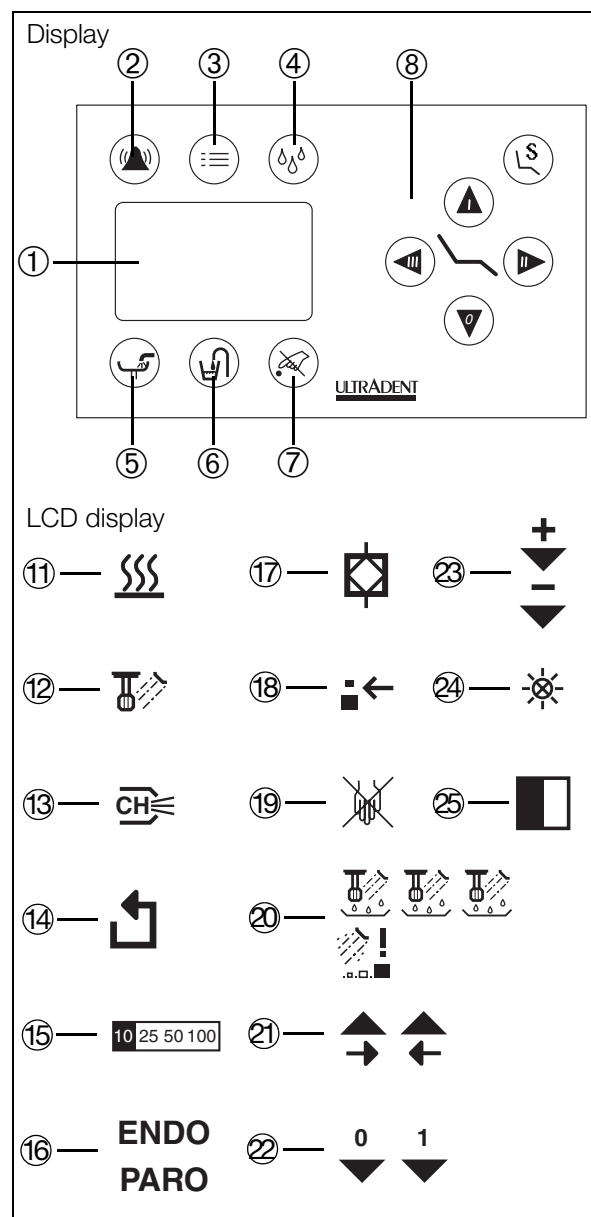

Fig. 77
You can activate or deactivate the spray cooling function (steripump) using the foot control. When the spray cooling function is activated, the spray pre-selection display 12 (Fig. 77) on the control panel lights up.
The four ranges across which continuous adjustment on the control unit is possible can be pre-selected on the control unit. The range in each case is displayed as a percentage of the maximum adjustment range 15 (Fig. 77) on the control panel. The setting is then retained even after the instrument is put back into the holder and taken out again.
The relevant value ⑮ (Fig. 77) is displayed on the screen.